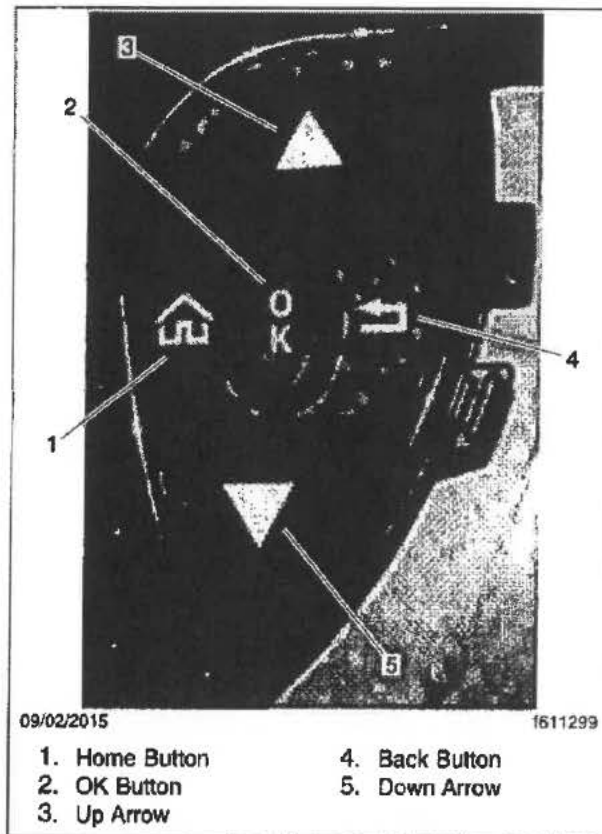
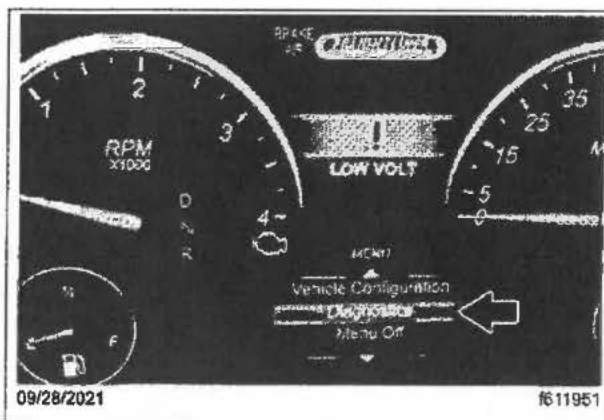
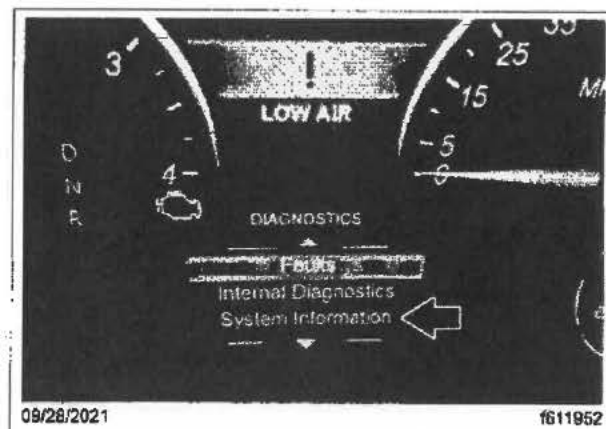

**Fig. 13, Steering Wheel Buttons**
**Fig. 14, Diagnostics Menu**
**Fig. 15, System Information Option**
- Using the buttons on the steering wheel shown in Fig. 13, navigate to 'Diagnostics,' then 'System Information.' See Fig. 14 and Fig. 15.